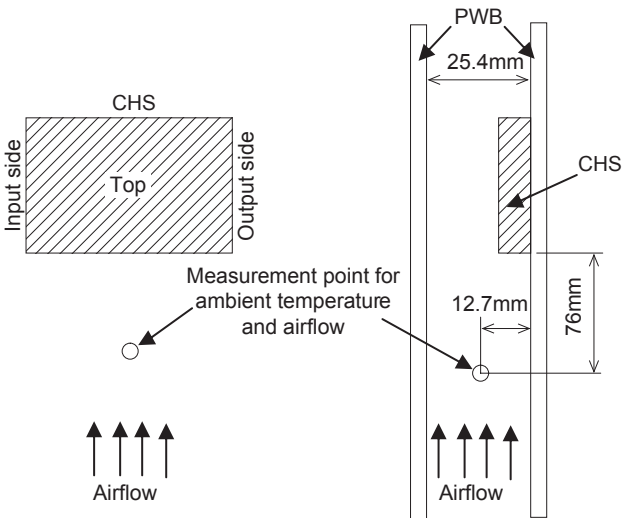

Fig.8.3 Measuring method
■ Show the thermal curve with measuring as shown in Fig.8.3. Verify final design by actual temperature measurement. Use the temperature measurement location as shown in Fig.8.2.1 to Fig.8.2.6 at 120°C or less.